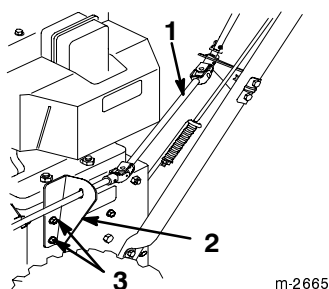

Figure 14
1. Remove the two screws from the chute control rod bracket on left side of the frame (Fig. 14).
4. Install the bracket with the two screws (Fig. 14).